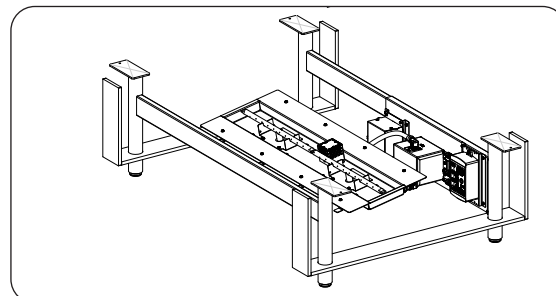

Fig. 25-4 Remove top piece, place frame
4. **CAREFULLY** set the top/main unit piece aside. Then place the metal frame in an appropriate location, (see Fig. 25-4, and refer back to the LOCATION section if needed).